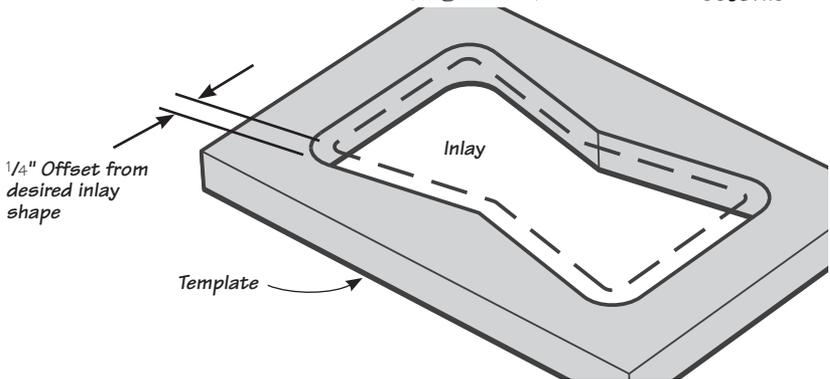

Figure 17: Typical template, note offset from desired shape.
1. *Make a template.* This template will act as your internal guide. It should be a female of the shape you will be inlaying, and have a contour that is offset $\frac{1}{4}$ " **larger** than the final inlay size since the $\frac{1}{4}$ " bit used to follow the internal shape of the template will leave the inside routed section smaller all around (**Figure 17**).